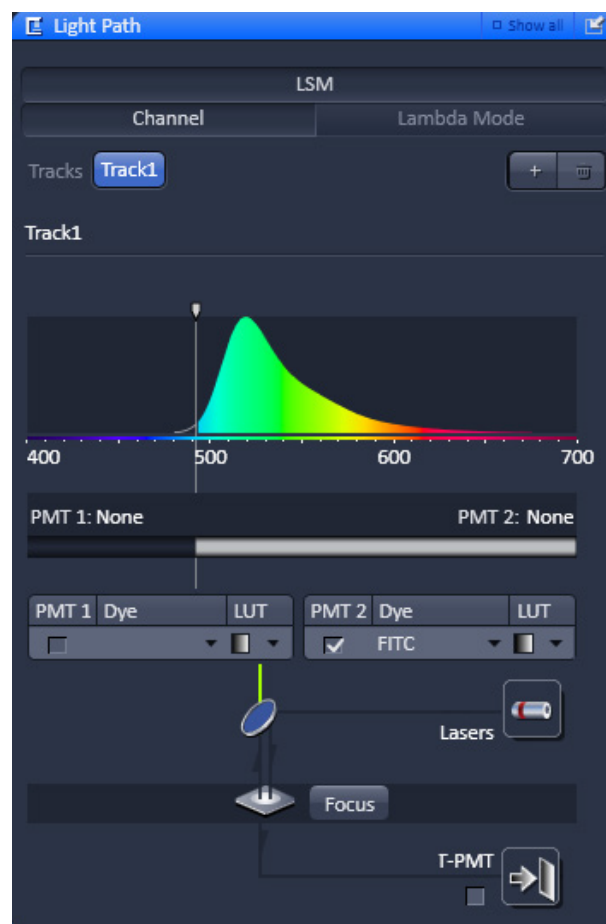

Fig. 98 Light Path tool
- Open the **Light Path** tool. Choose **Channel** mode for the image acquisition (Fig. 98).